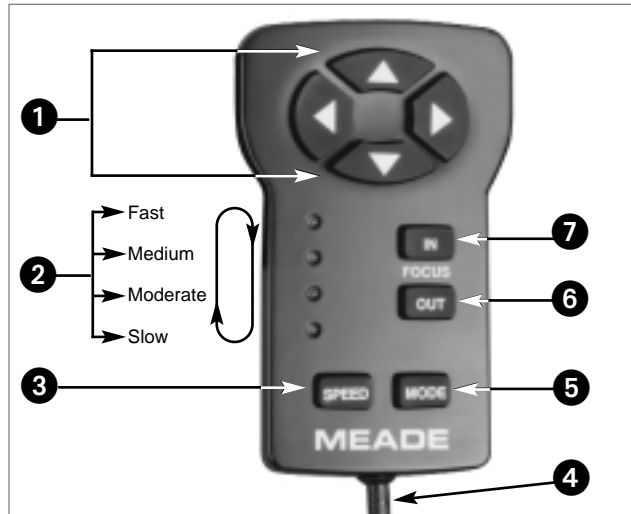

Fig. 43: Electronic Controller. (1) Arrow Keys; (2) Indicator Lights; (3) SPEED Key; (4) Coil Cord; (5) MODE Key; (6) OUT Key; (7) IN Key.
The following numbers refer to Fig. 43 above.
- 3 SPEED Key:** Press **SPEED** to change the speed at which the telescope slews to an object. Each press of the **SPEED** key changes the slew speed to the next slower setting. If the controller is already on the slowest slew speed (light 4), pressing **SPEED** cycles back to the highest speed (light 1). Slew speeds are signified by the indicator lights (2, Fig. 43).